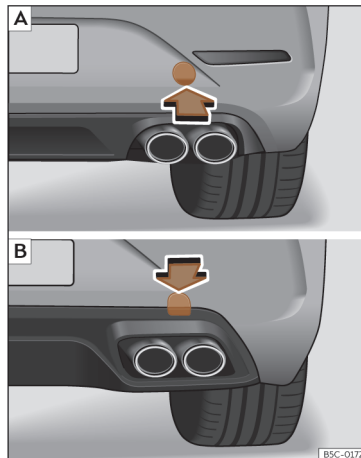

Fig. 50 On the right side of the rear bumper: remove the cover. **A** Leon Sportstourer; **B** Leon.
The housing of the screw towing eye is on the right side of the rear bumper behind a lid >>> **Fig. 50**.
- *Leon Sportstourer*: Press the lower side of the lid >>> **Fig. 50 [A]** to unclip it. *Leon*: Press the upper side of the lid >>> **Fig. 50 [B]** to unclip it.